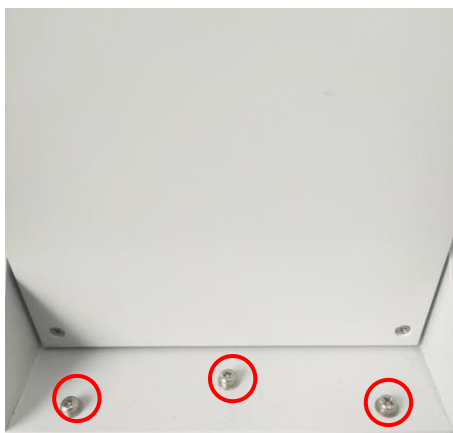

Fig.6.58
4) Unscrew the three fixing screws with a cross screwdriver (Fig. 6.58) to remove the UV digestion tank as a whole from the inside of the instrument.